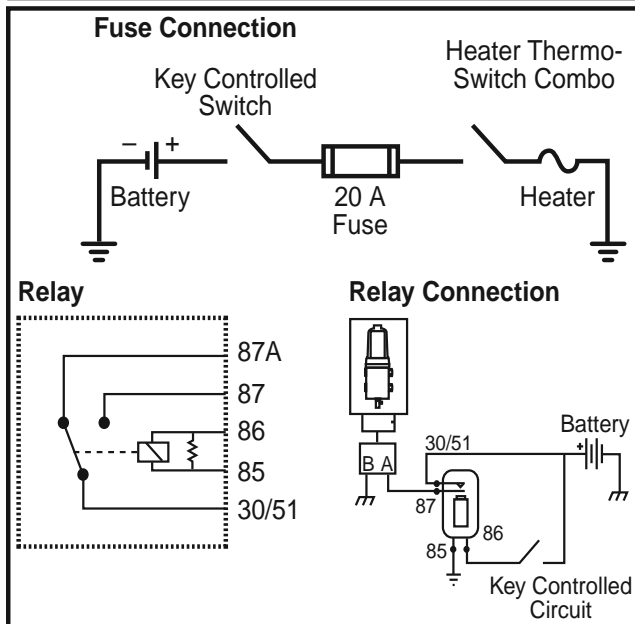

Figure 5
Step 1 - If the Heater-thermo Combo unit (1) is not already installed, remove the 1/2" NPT plugs from the bottom plate of the Diesel Pro and install the Heater-Thermo Combo unit. Torque to 15-30 ft-lbs (20.3-40.7 N·m).
Step 2 - Connect the Chassis-Ground Harness (4) to the Fuel Processor Harness.
Step 3 - Connect the Power Lead to the accessory side of the ignition switch. (Use of a 20 A fuse is recommended but not included in the Diesel Pro kits. Use a relay if the equipment ignition circuit will not handle a minimum of 20 A. (See figure 5).